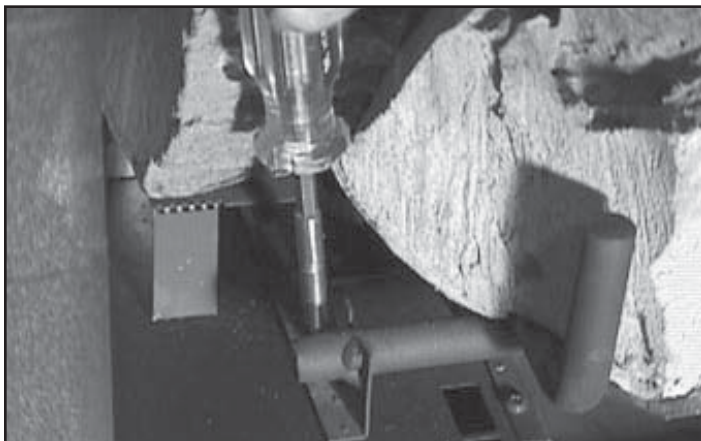

Figure 10.4 Remove Log/Grate Assembly
- Remove the log/grate assembly by unscrewing the four screws located on the left and right sides of the assembly. See Figure 10.4.